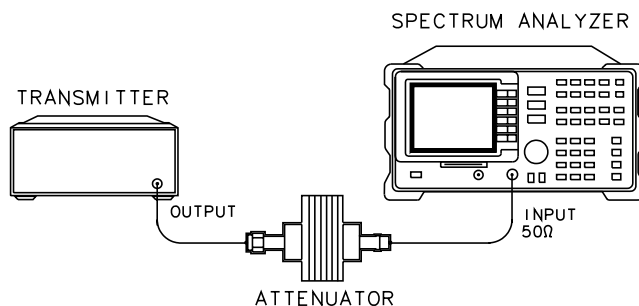

Figure 26 Test Setup for Initial Intermodulation Attenuation Measurement
- 2 Press **Intermod Atten**, then **TX BAND**. Refer to Figure 26 on page 68 for the initial test setup. If a carrier is present, the spectrum analyzer measures the carrier to determine its peak power.